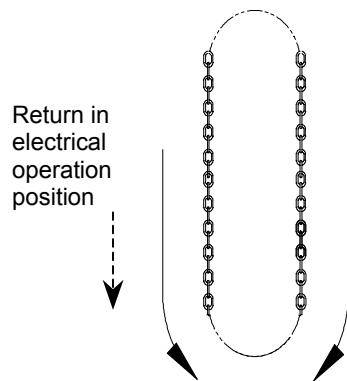

Figure 14 Operating chain to open and close door
2. Continue the traction movement to move the door. If it doesn't run in the desired direction, repeat actions 1 and 2 by pulling the chain in the other direction (See Figure 14).